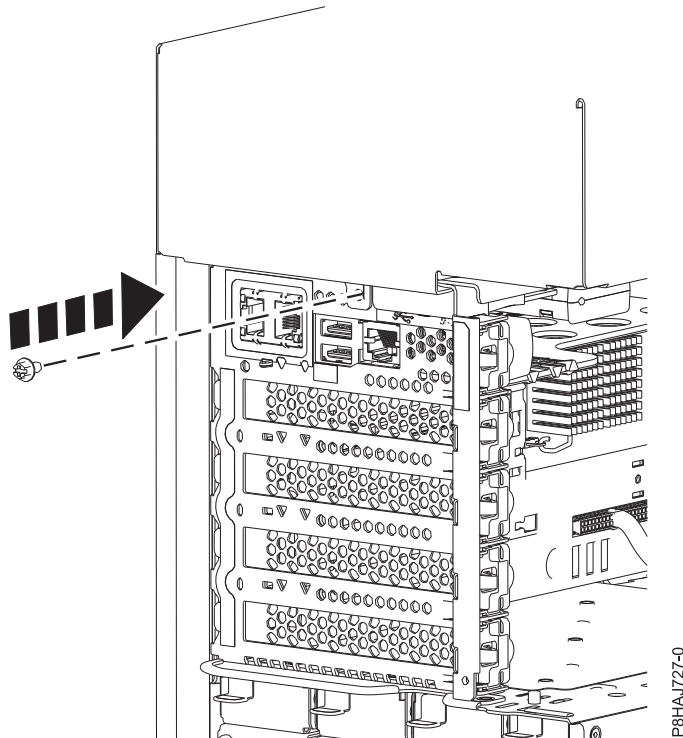

Figure 21. Installing the 8286-41A side cover screw
5. Install the side cover rear screw with a Phillips screwdriver as shown in Figure 21 on page 38.